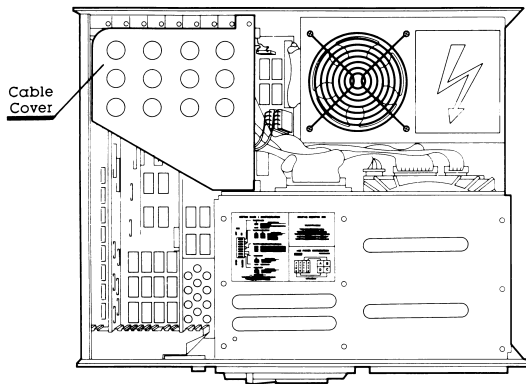

Figure 7-14. Cable Cover.
4. Remove the cable cover (Figure 7-14).